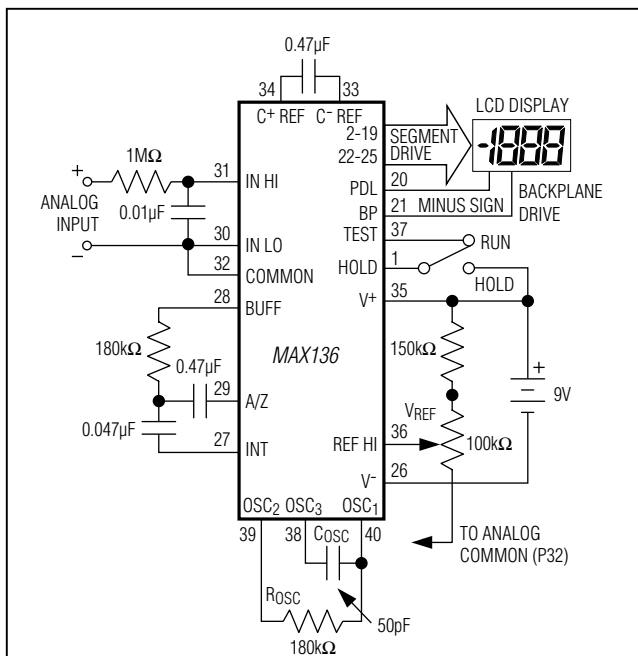

Figure 1. MAX136 Typical Operating Circuit, 200mV Full Scale
( $V^+ = 9\text{V}$ ;  $T_A = 25^\circ\text{C}$ ;  $f_{\text{CLOCK}} = 48\text{kHz}$ ; test circuit - Figure 1 unless noted.)
**Note 3:** Test condition is  $V_{\text{IN}}$  applied between pins IN-HI and IN-LO, i.e., 1M $\Omega$  resistor in Figures 1 and 2.
**Note 6:** 1M $\Omega$  resistor is removed in Figures 1 and 2.
are not updated; when the Hold input is low or at the Test voltage, the display is updated at the end of each conversion. The MAX136 maintains low-power dissipation even during display hold by eliminating the pull-down resistor between Hold and Test present on the ICL7116. The Hold input is CMOS compatible, and can also be driven by a switch connected between Test and V+ (Figure 1).